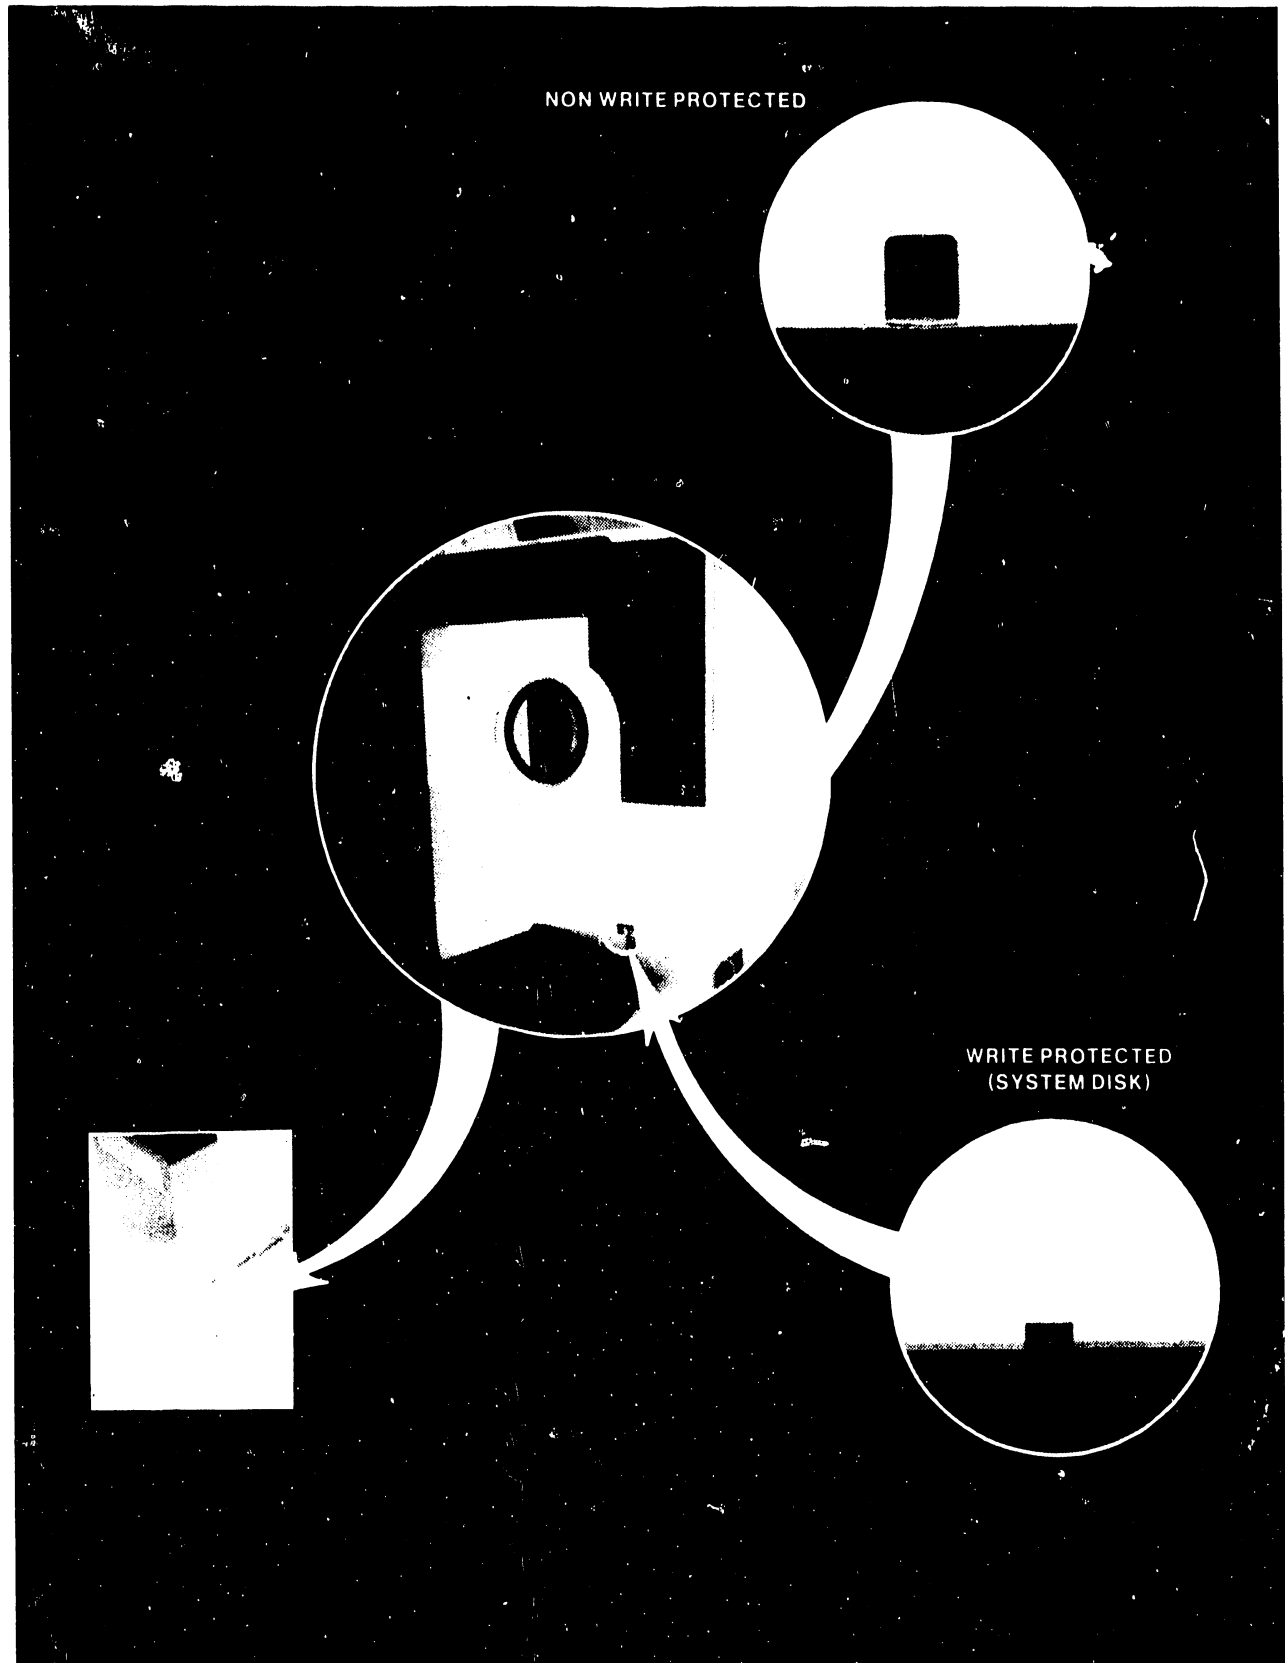

FIGURE 4-5 SYSTEM DISK INSERTION
1. Remove system diskette from the paper dust jacket. Check that the write-protect slot is not covered with a tab. The protective shield should have arrows indicating direction of diskette insertion. If no arrows, position write-protect slot at the bottom nearest the door (see Figure 4-5).